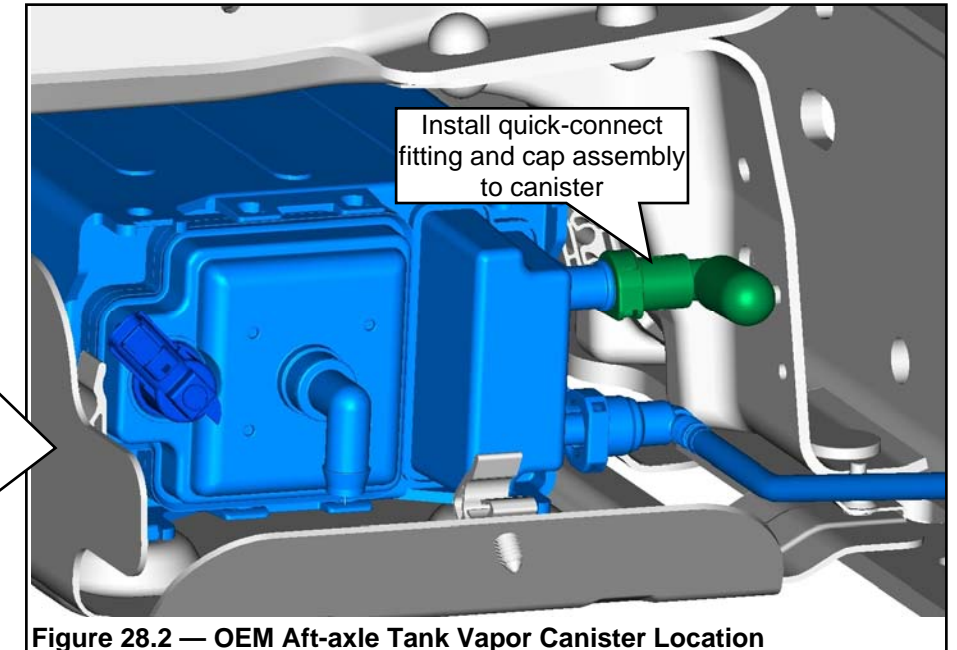

Figure 28.2 — OEM Aft-axle Tank Vapor Canister Location
2. Install assembly onto vapor canister top front port or upper rear port. **Figures 28.2 and 28.3.**